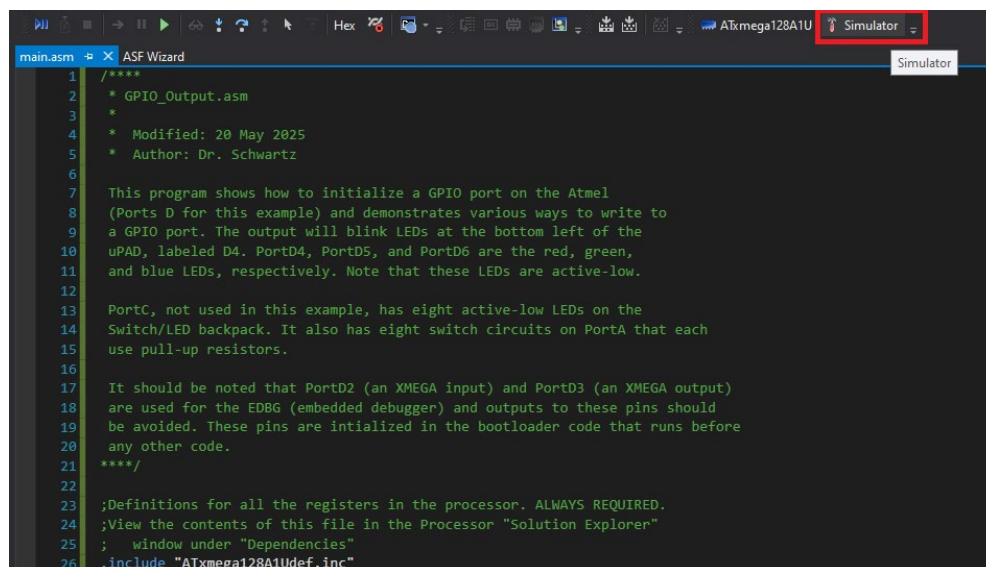

Figure 9: Target Selector.
3. Click the target selector icon as shown in *Figure 9*. This will open the project *Tool* window. You can also navigate here via *Project* → <Project_Name> *Properties...*